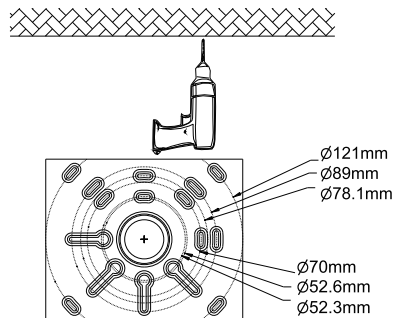

Figure 2-3
3. Drill the holes on the ceiling accordingly to fit the plate. Fig. 2-3